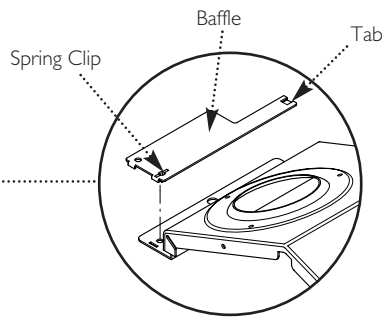

Fig. 56
11. Ease the front edge of the left hand baffle upwards, disengaging the spring clip. Disengage the tab on the baffle from the slot in the fan hood (Fig. 56).